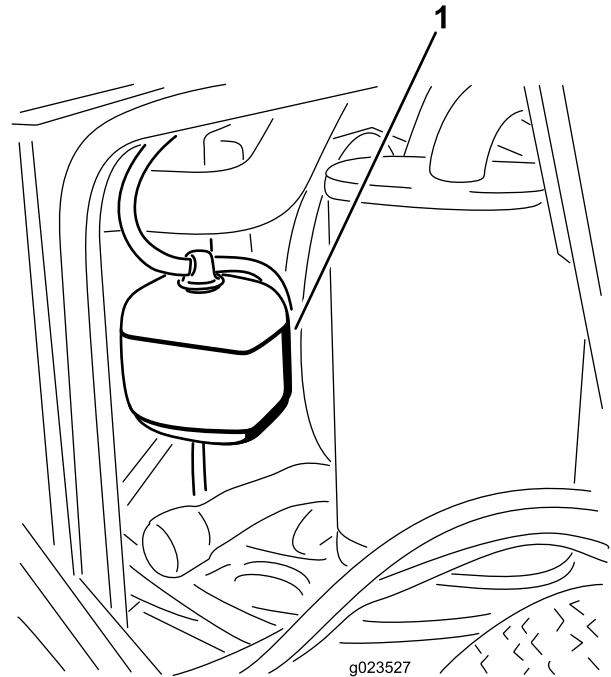

Figure 74
1. Check the level of the coolant in the expansion tank (Figure 74). The coolant level should be between the marks on the side of the tank.